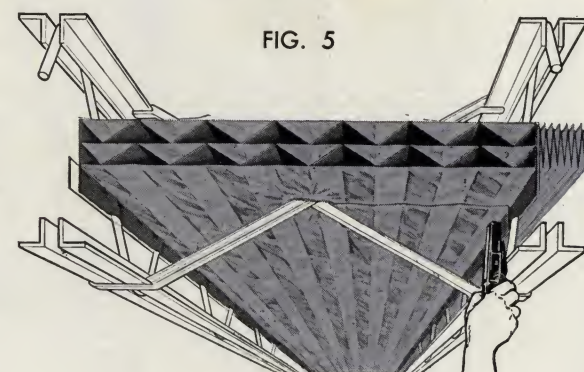

FIG. 5
3) Expand *both* sections of the cut portion of the insulation across the remaining space on the other side of the intersection of the struts, and attach to the opened flange of an *unexpanded* strip of insulation held on the far side of the next joist. *See Fig. 5.* A narrow slit will show where the